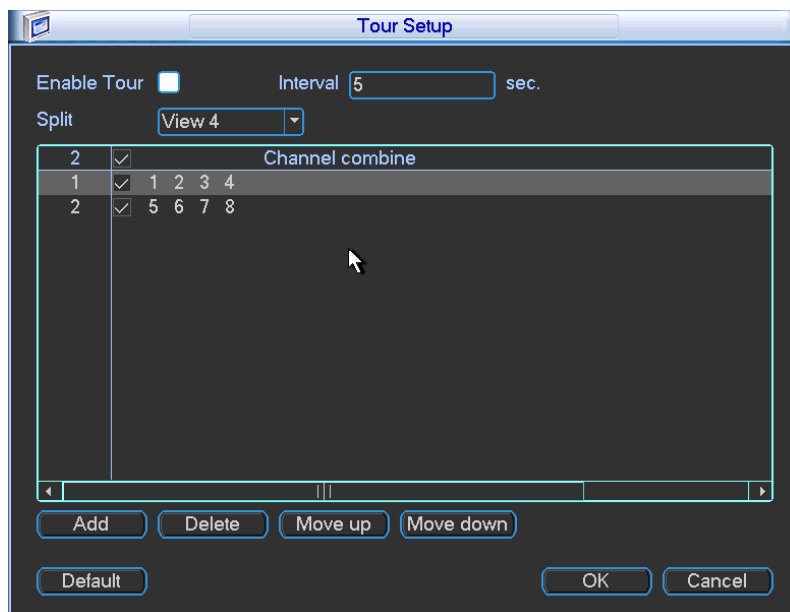

Figure 5-42
- Tour setup: Here you can activate tour function. Click Setup button, you can see an interface shown as in Figure 5-42.